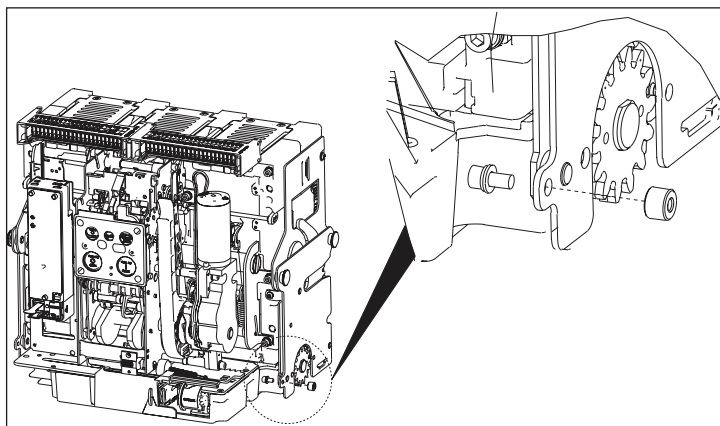

Figure 12.
Step 3: Locate the actuator mounting hole on the lev-in side sheet assembly (Figure 12).
Step 4: Install a M5 screw and washers from the inside of the side sheet as shown in Figure 12. Torque screw to 35 in-lbs (4 N-m).